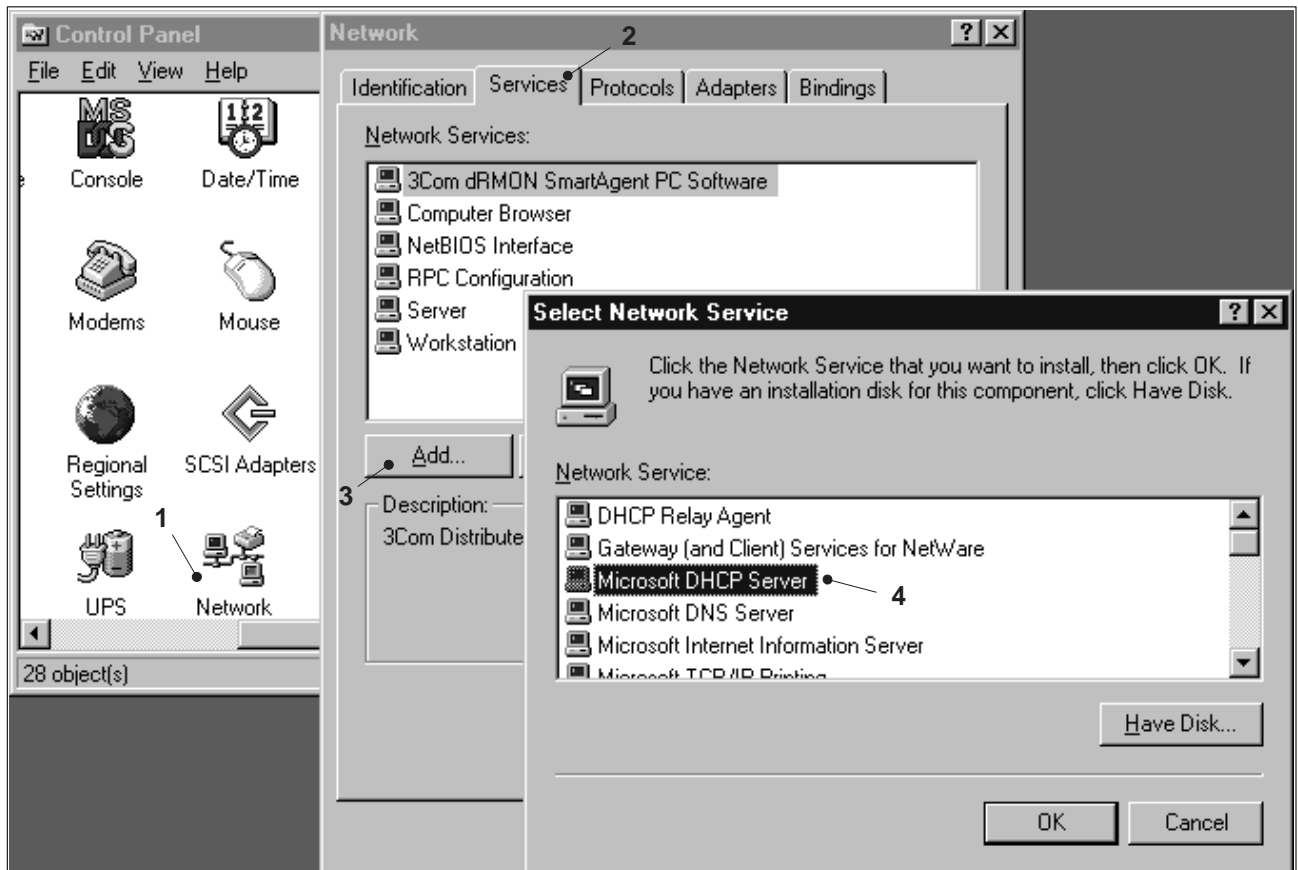

Fig. 7 Network Service
- 4 Click on the **Network** symbol (Fig.7/1).
- 5 Click **Services** on the property tab (Fig.7/2).
- 6 Click on the **Add** button (Fig.7/3).
- 7 Click on the **Microsoft DHCP Server** line (Fig.7/4).